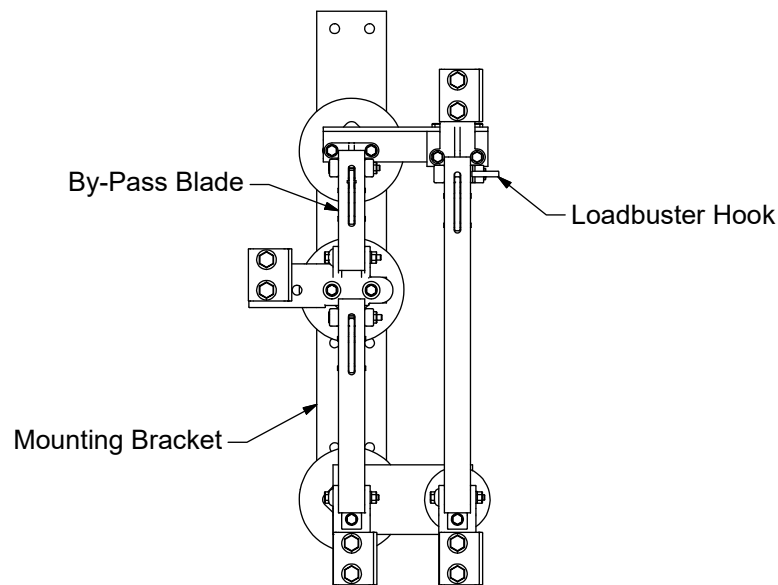

Figure 2
15. To By-Pass Regulator, See Figure 2
16. To Re-Energize Regulator, See Figure 2